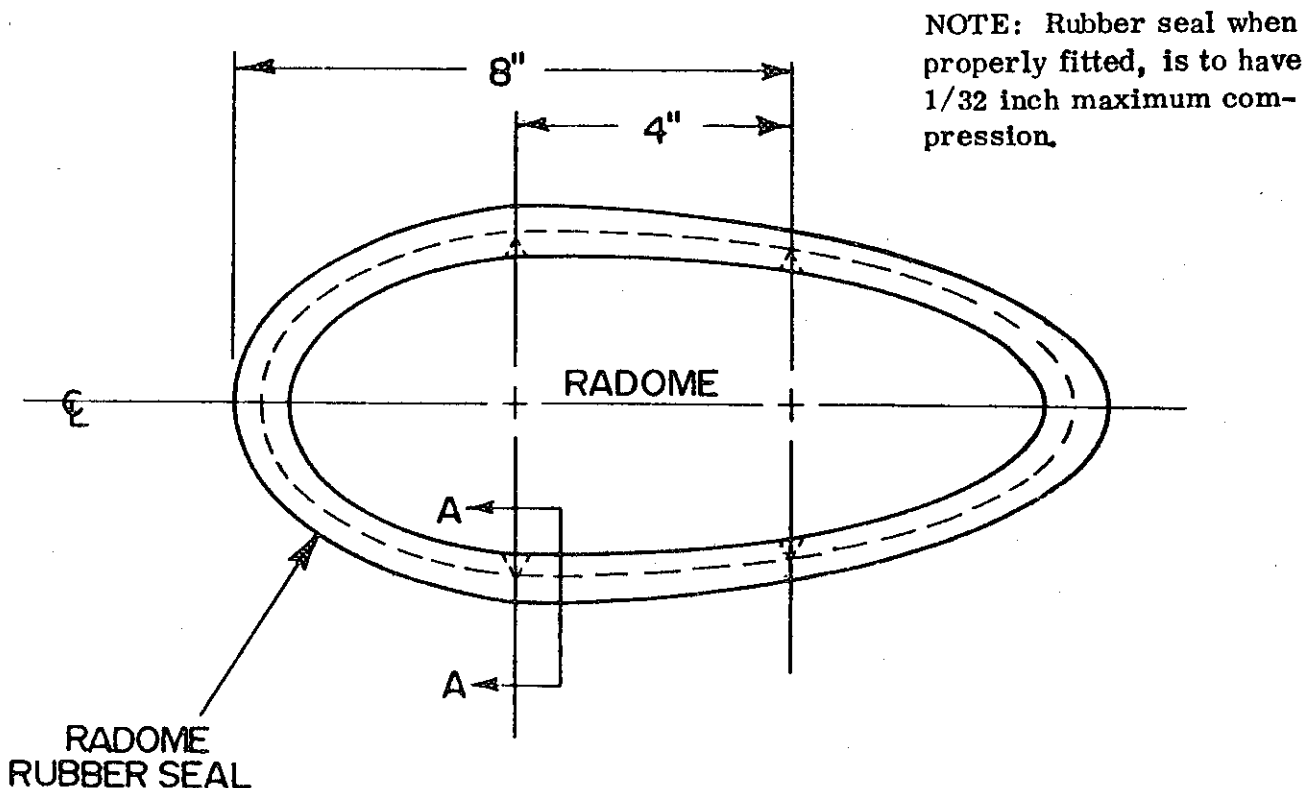

Figure 3-6. Antenna Radome Rubber Seal
- Step 36. Layout, drill, mast cap, Pc. 48, Ref. (9), for installation of antenna radome rubber seal (detail D-9). Install 24 helicoils Pc. 3, around interior of closure cap. Secure rubber seal, Pc. 12, to closure cap with adhesive, Pc. 17, and with Pc. 13 and 24 screws, Pc. 4. Rubber to be flush with top of closure cap. With pocket knife cut (6) notches on each of the (3) lower projections of the seal as illustrated in Figure 3-6.
- Step 37. Layout, drill and tap sail coaming for installation of rubber seal in accordance with Ref. (9) and Figure 3-6. Secure rubber to closure plate with primer, Pc. 19, adhesive, Pc. 18 and hardware. See details A-9, B-9 and E-9, Ref. (9). Rubber seal to be flush with top of closure plate.